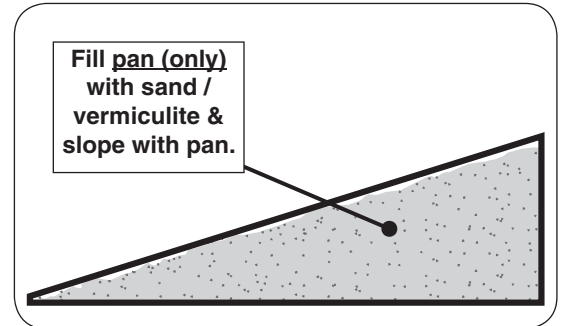

Fig. 19-2 Sand/vermiculite detail
2. Slope the sand/vermiculite at the same angle as the burner pan. This is important to ensure quiet lighting and even flame distribution. See Fig. 19-2.